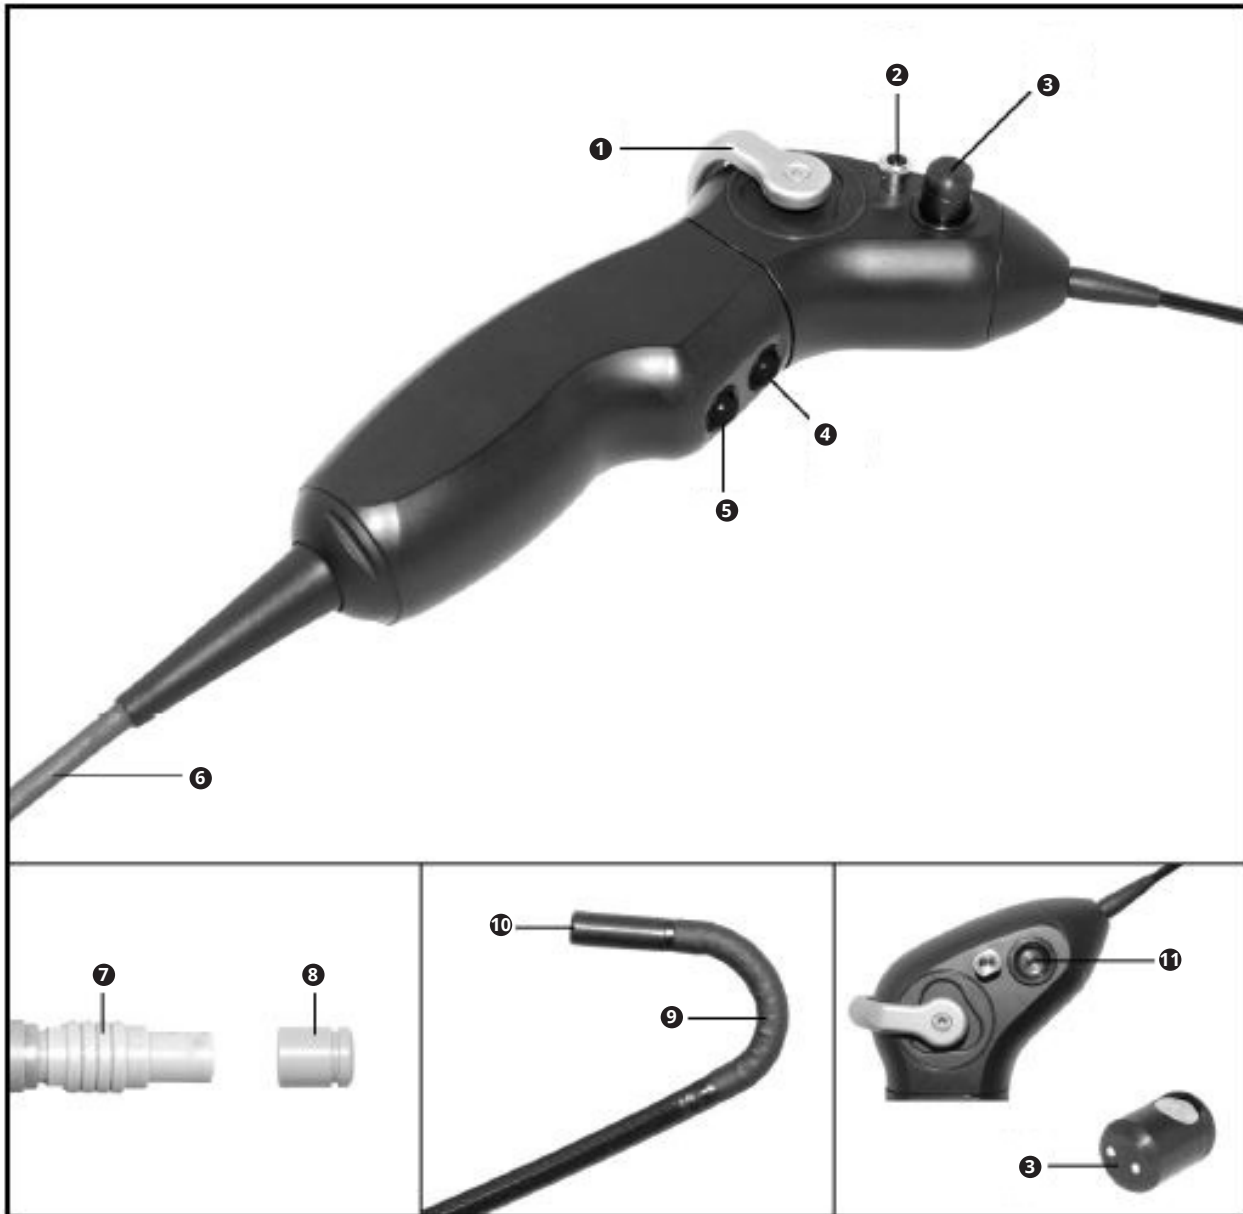

Fig. 1
- Slowly operate the deflection lever ❶ (Fig. 1), to check the function.